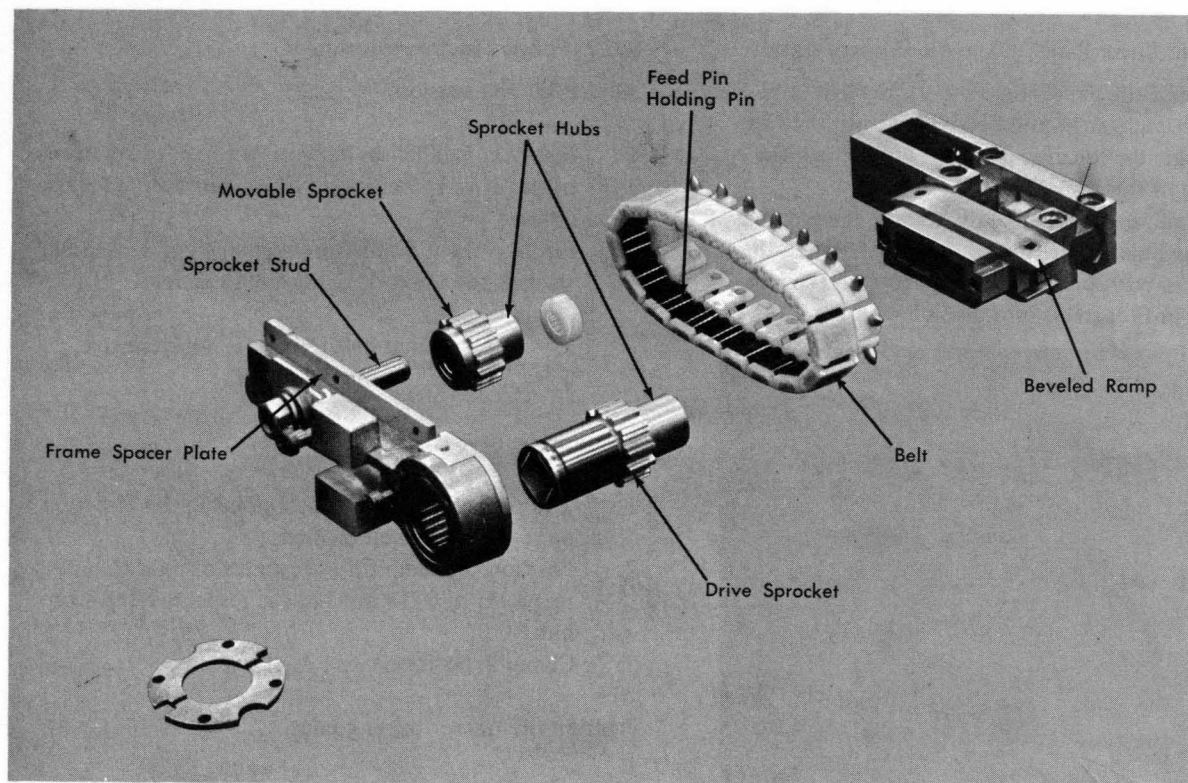

Figure 4-10. Tractor Assembly Components
1. Maintain parallelism between the axes of rotation of the drive sprocket and of the movable sprocket (Figure 4-10).